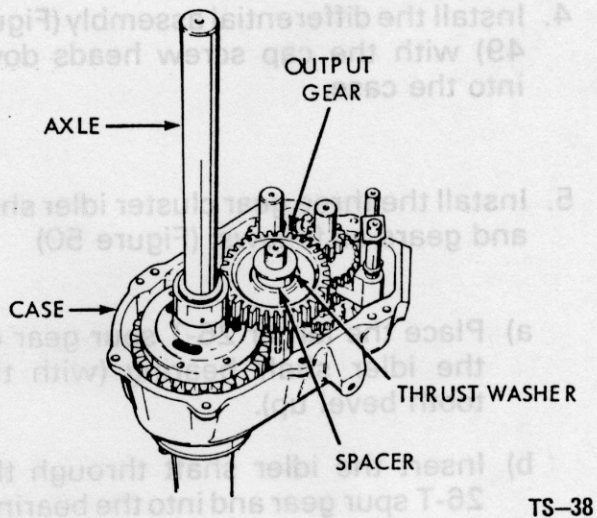

Figure 52 - Output Gear and Shaft
7. Install the output shaft into the case (Figure 52) and assemble the 32-T output gear, 5/8" x 1-5/16" spacer and a 1/16" x 3/4" I.D. thrust washer onto the output shaft.
- c) Align the case and cover with (2) dowel pins.
- d) Secure case to cover with (8) 1/4-20 x 3/4" socket head cap screws. Torque to 10 ft. lbs.